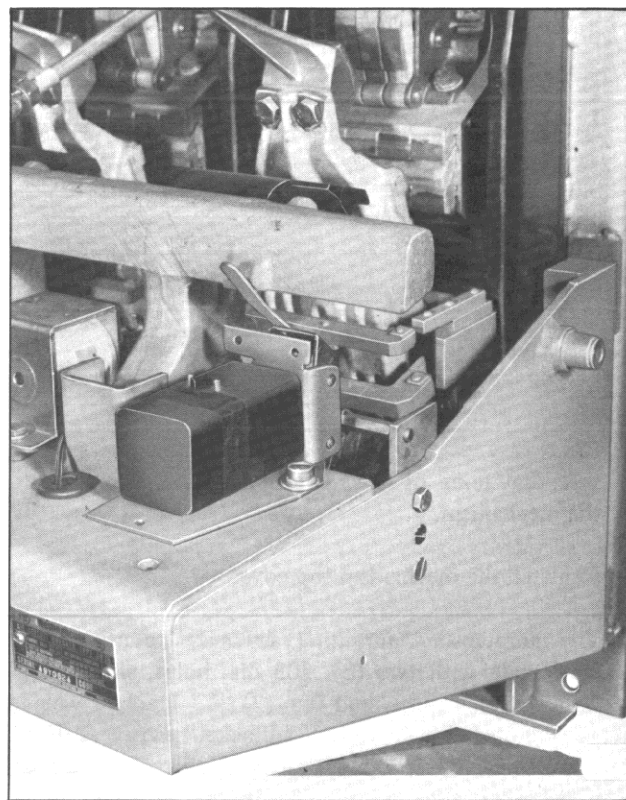

Fig. 27 Actuator in Place and Readied for Drilling
4. Drill and tap .190-32 hole in breaker platform 2.18 from front and 2.38 from right side of platform, Fig. 27 and temporarily secure actuator parallel to the platform with "L" bracket in place using .190-32 x .75 screw, nut and washers, Fig. 11.